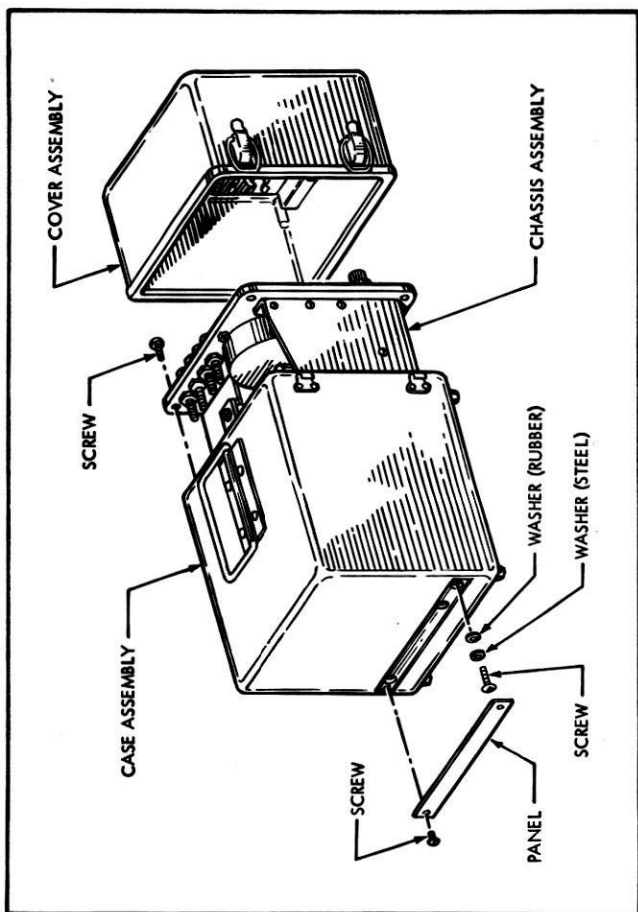

Figure 5-1. Electronic Multimeter AN/USM-116,
- (1) Remove two screws (see figure 5-1) which secure the small panel to the back of the case assembly.
- (2) Take out three screws securing the chassis to the back of the case assembly.
- (3) Remove four screws, one of which is located at each corner of the control panel.
- (4) Carefully pull case assembly away from the front panel and chassis assembly.